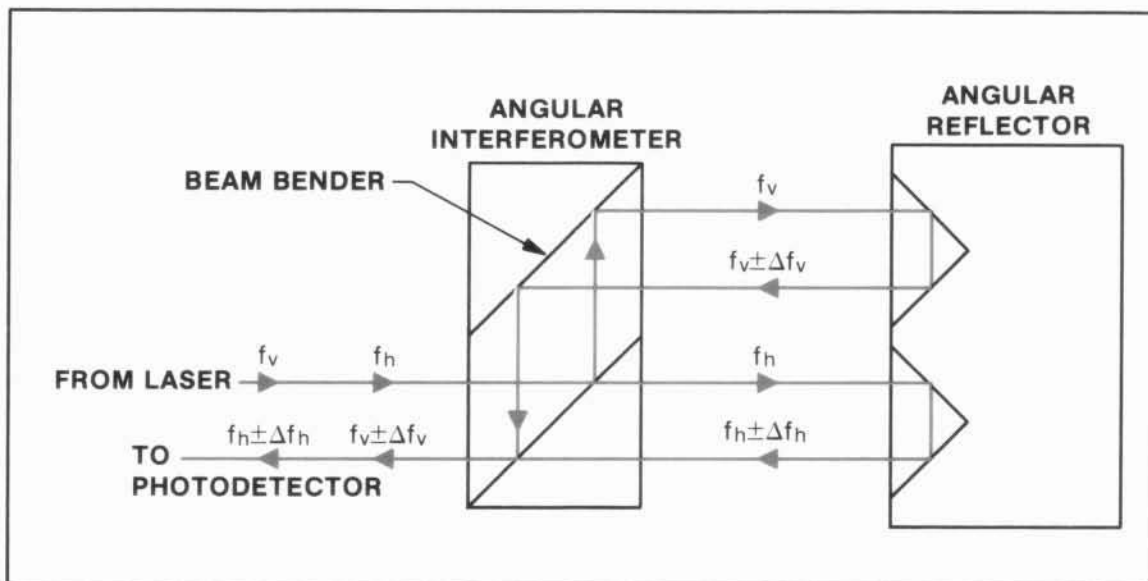

Figure G-2. Angular Measurements
*Figure G-2* shows the laser beam path through the optics. The angular optics create two parallel beam paths between the angular interferometer and the angular reflector. The spacing between the two paths (32.61 mm) is precisely known since this spacing is set by the optics and the retroreflectors within the angular reflector. Both components are positioned 32.61 mm apart at their centerlines. The optics are initially set parallel to each other and the system is initialized. The two beam paths are initially the same length. If either optic is rotated, the relative path lengths will change. This change will cause a Doppler-shifted frequency change in the beam returned from the interferometer to the receiver. The change will result in an indicated change in path length. From geometry the angle of rotation is related to the change in relative path length by: